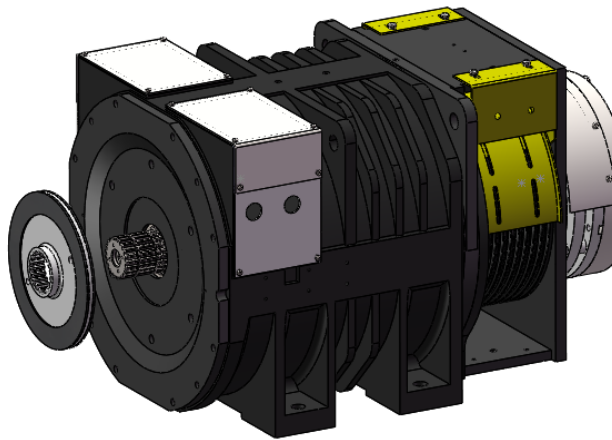

Figure 51: Friction lining B reinstalled
3. Install the new friction lining. It is OK to apply a little force using rubber hammer to press it in and move it forward through the spline (Be careful not to damage the O-rings.); make sure the friction lining moves easily. See Figure 51.